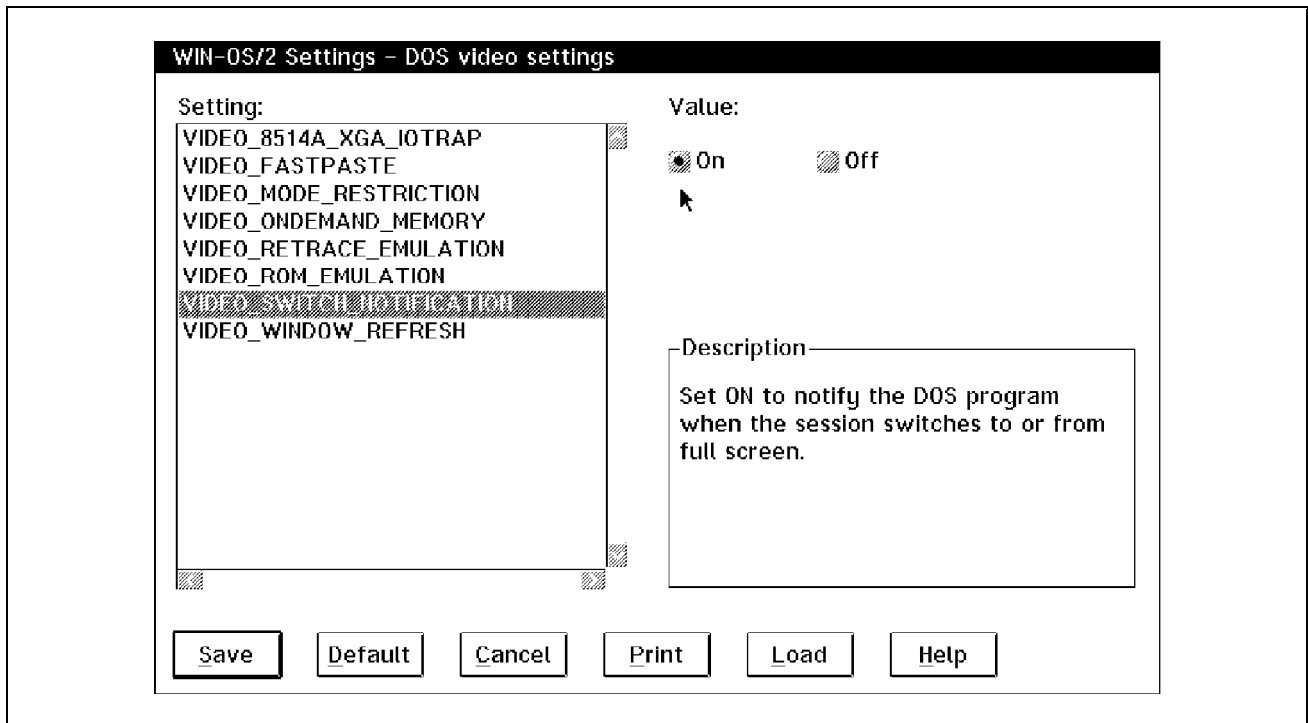

Figure 22. Setting Video Switch Notification
6. Highlight **VIDEO_SWITCH_NOTIFICATION** and select **ON**. See Figure 22 on page 84.
The other video settings that can also be changed are shown in Figure 22. A description of each setting's function is included on the Settings page. If you are experiencing video problems in DOS or WIN-OS/2 sessions that you do not think are driver related, changing a video switch setting may be the resolution to your problem.